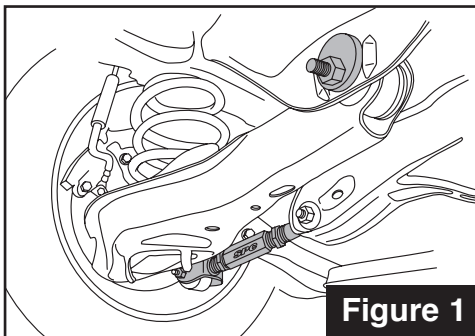

Figure 1
2. Remove lower forward control arm (**Figure 1**) from vehicle.